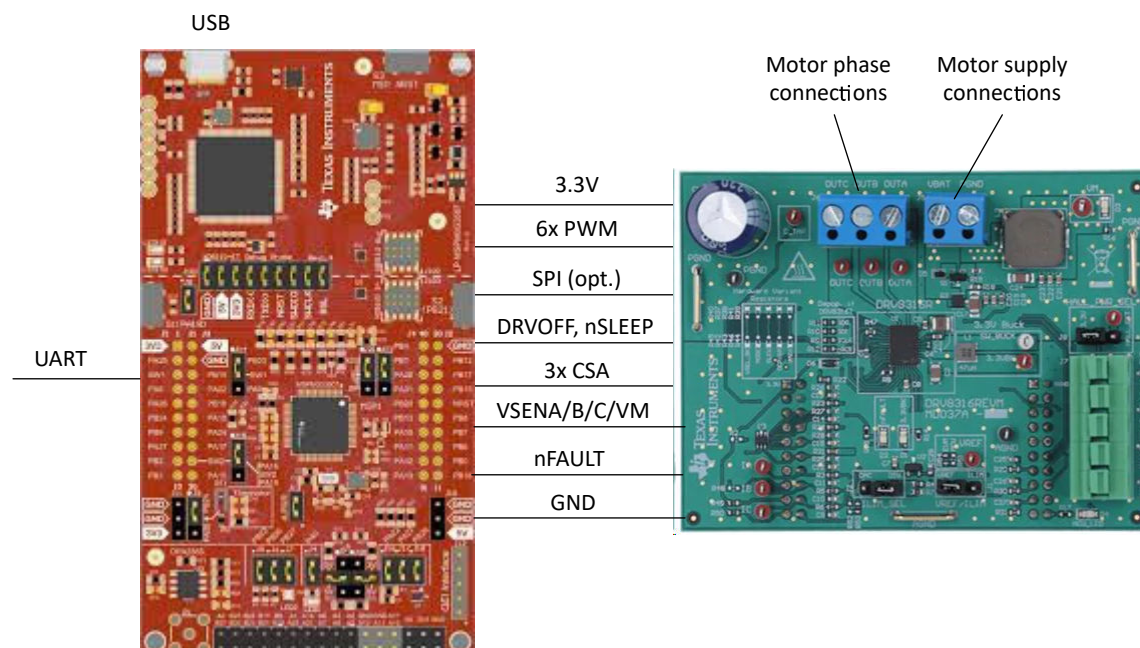

Figure 2-4. MSPM0 LaunchPad Kit and DRV8316 EVM External Configuration
2. Make the inter-device connections from the MSPM0 LaunchPad kit to the DRV83xx EVM by mating the EVM to the LaunchPad kit or using jumper wires as shown in Figure 2-4. For hardware user guide connection details, see Section 2.1.1.